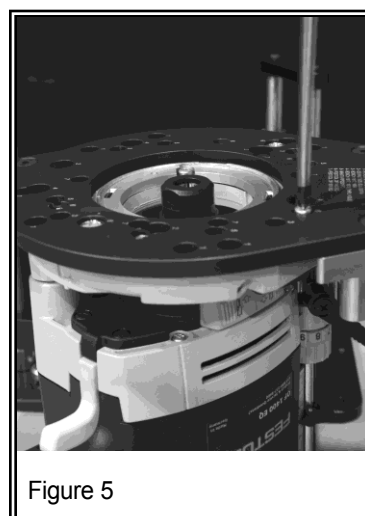

Figure 5
5. Once properly aligned, use the provided screws to securely fasten the MLCS Router Lift carriage to your router. (See Figure 5.)